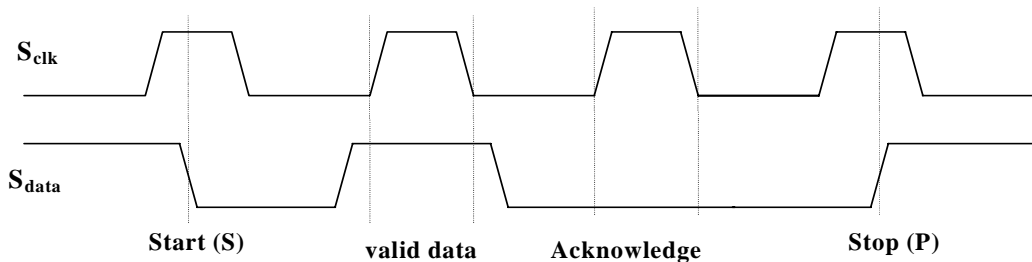

Figure 2. Serial Interface Specifications
Figure 2 shows the basic transmission specification. To begin and end a transmission, the master device generates a start signal (S) and a stop signal (P). Start (S) is defined as switching the S_{data} from HIGH to LOW while the S_{clk} is at HIGH. Similarly, stop (P) is defined as switching the S_{data} from LOW to HIGH while holding the S_{clk} HIGH. Between these two signals, data on S_{data} is synchronous with the clock on the S_{clk}. Data is allowed to change only at LOW period of clock, and must be stable at the HIGH period of clock. To acknowledge, drive the S_{data} LOW before the S_{clk} rising edge and hold it LOW until the S_{clk} falling edge.
Figure 2 shows the serial interface transfer format used with the CY2213. Two dummy bytes must be transferred before the first data byte. The CY2213 has only three bytes of latches to store information, and the third byte of data is reserved. Extra data will be ignored.